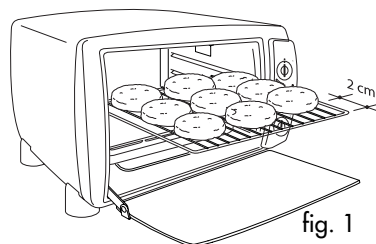
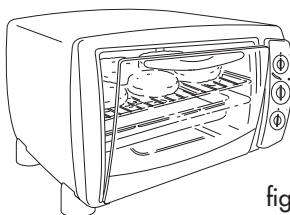

fig. 1
fig. 2
Place the food being grilled directly on the wire rack and the dripping pan (N) in the centre guide (2) as shown in Figure 1. Leave the door ajar as shown in Figure 2. Pour a glass of water into the dripping pan (N) to make cleaning easier and prevent smoke being produced by the burning fat.
**Important:** for best results, place the food on the wire rack (O), leaving an empty space of around 2cm near the door (see Figure 1).